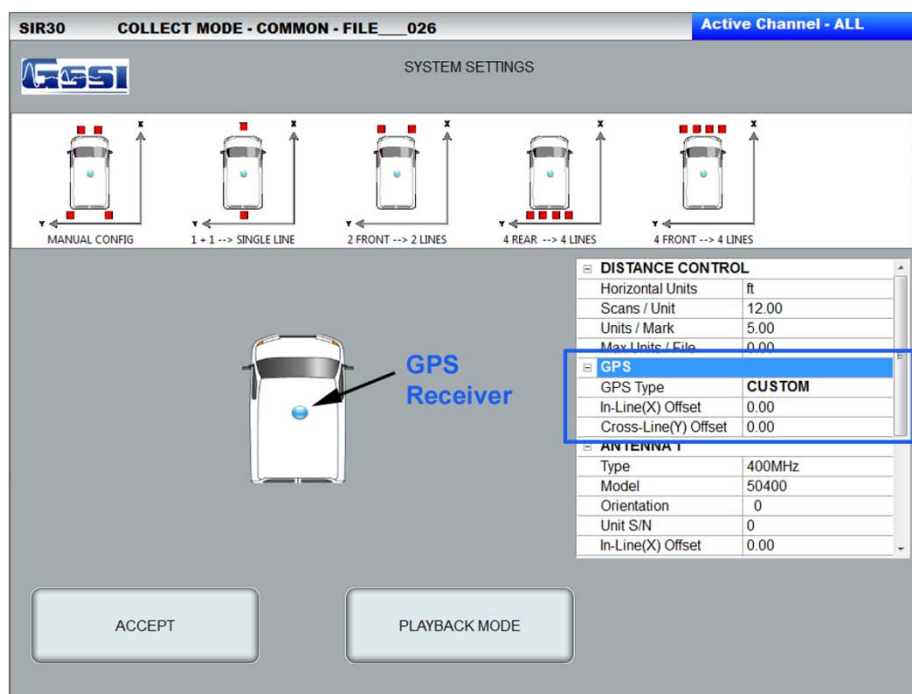

Figure 22: GPS Initial Hardware Setup.
- 5** You will see this screen (Figure 22) on startup. You can also access it by clicking RADAR CONFIG > SYSTEM SETTINGS.